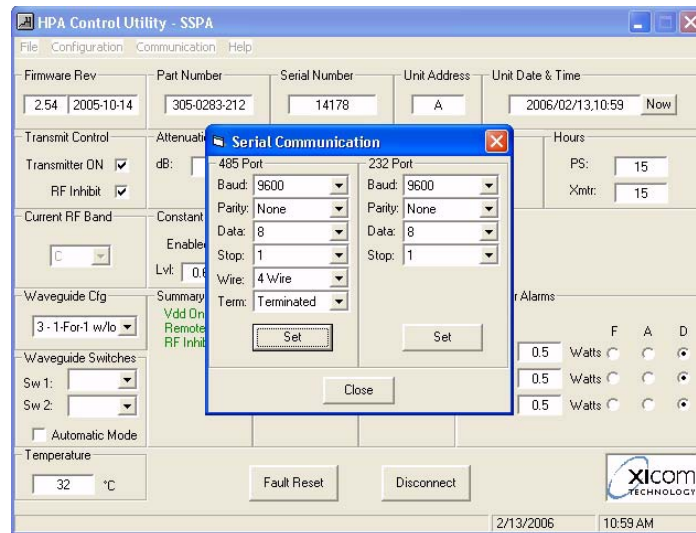

Figure 21, Serial Port communications parameters and RS485 operating mode
5. Selecting the “Serial Com” option presents a screen shown in Figure 21, which allows you to change the Baud Rate, Parity, number of data bits, and for RS485, 2 wire/4 wire mode and cable termination. The microprocessor used in the amplifier is only capable of operation with 1 stop bit.